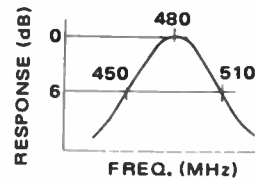

FIGURE 9. UHF RF CHARACTERISTIC CURVE
- Step 4: Adjust TC-1 for maximum output and best curve symmetry as shown in Figure 9.